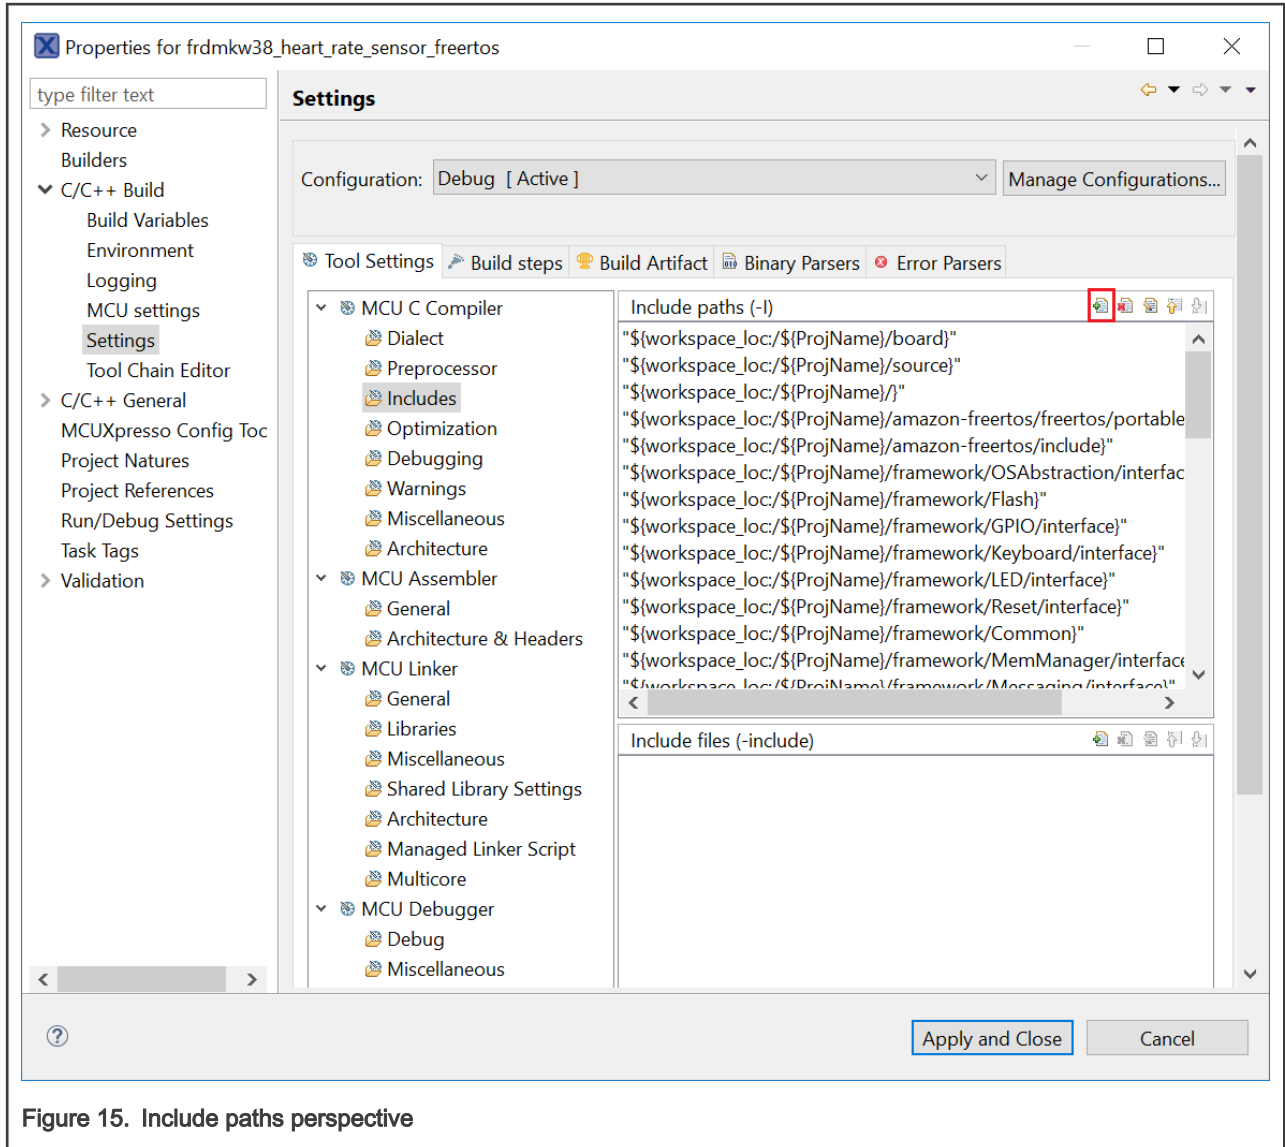

Figure 15. Include paths perspective
4. Navigate to **Project** -> **Properties** in MCUXpresso IDE. Go to **C/C++ Build** -> **Settings** -> **Tool Settings** -> **MCU C Compiler** -> **Includes**. Click the icon next to the **Include paths** textbox, as shown in Figure 15. In the new window that appears, click the **Workspace** button.